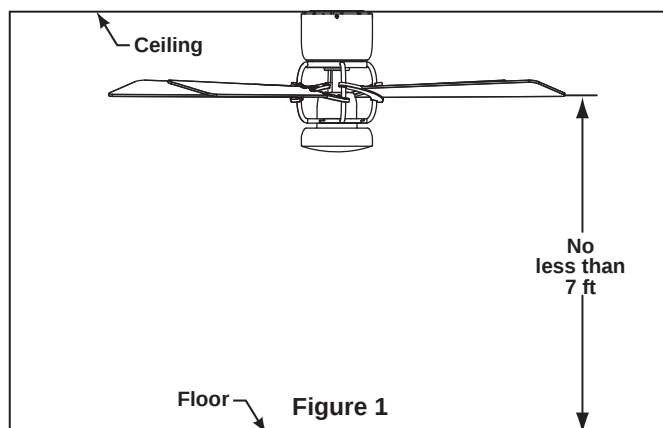
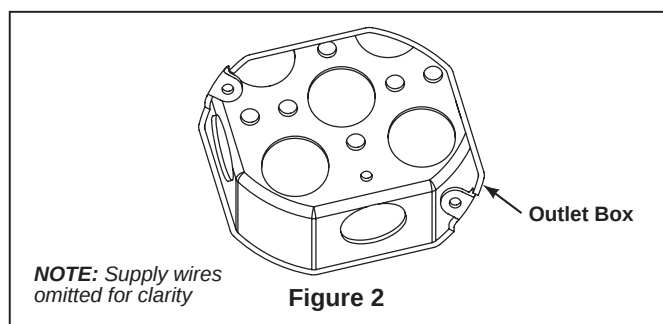
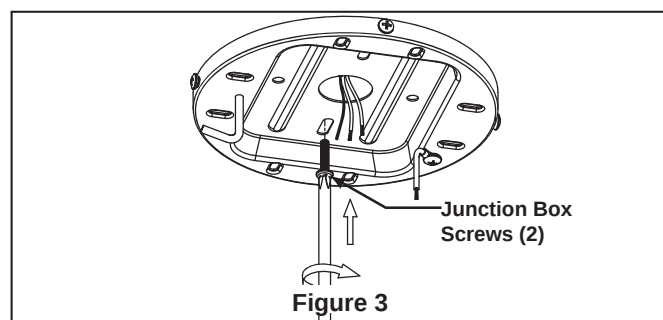

Figure 1
Figure 2
Figure 3
Your new ceiling fan will require a grounded electrical supply line of 120 volts AC, 60 HZ, 15 Amp Circuit. Electrical code requires use of a fan-rated outlet box to support the extra weight and motion associated with a ceiling fan. A fan-rated box will be labeled as such and typically supports up to a 70lb ceiling fan. Fan-Rated Outlet Boxes vary in ratings and design. Ensure the ratings of your ceiling fan outlet box meet the requirements for the ceiling fan being installed. Figure 1, Figure 2 and Figure 3 depicts different structural configurations that may be used for mounting the outlet box.
Low profile box (Figure 1)
Deep box (Figure 2)
Deep box with brace (Figure 3)
The fan must be hung with at least 7' of clearance from floor to blades. (Figure 1)
It is critical that the outlet box and the screws are securely anchored to the building structure and capable of withstanding a load of at least 35 lbs. Failure to verify that the screws are properly installed could result in the fan falling. (Figure 2)
- ☐ 1. Securely attach the ceiling junction box **acceptable for ceiling support** into the building structure. Junction box is not supplied with the fan. (Figure 2)
- ☐ 2. Using the ceiling junction box screws provided with the ceiling junction box, securely attach the ceiling bracket to the ceiling junction box as shown. (Figure 3)
- ☐ 2. Remove two of the four screws in the ceiling bracket assembly. Slightly loosen the remaining two screws. Retain the removed two screws for reinstallation in Step 4. (Figure 2)
- ☐ 3. Carefully secure the motor assembly onto the mounting slots on ceiling bracket assembly with the upward-clockwise twist. (Figure 3)
- ☐ **2.** Assemble the blade arm/holder assembly to the motor assembly using the 1/4"-20 x 10 mm screws. (Figure 2)
- ☐ **3.** Remove the three screws at the base of the motor assembly. Assemble the trim cover onto the motor assembly using the three screws and securely tighten. (Figure 3)
- ☐ 2. Remove the one of three screws in the switch housing assembly. Slightly loosen the remaining two screws. Assemble the shade assembly to the switch housing assembly using the two key slots in shade assembly. Replace the third screw and securely tighten all three screws. (Figure 2)
- ☐ 3. Connect the 2 single-pin connectors from the socket plate assembly to the 2 single-pin connectors from the switch housing assembly. (Figure 3)
- ☐ **2. IMPORTANT:** Using a full range dimmer switch (not included) to control fan speed will damage the fan. To reduce the risk of fire or electrical shock, do not use a full range dimmer switch to control the fan speed. (Figure 2)
- ☐ **3.** To make fan operational, install two 3-volt batteries in hand-held remote transmitter, (if not using for long periods of time, remove batteries to prevent damage to transmitter). Store the remote away from excessive heat or humidity. (Figure 3)